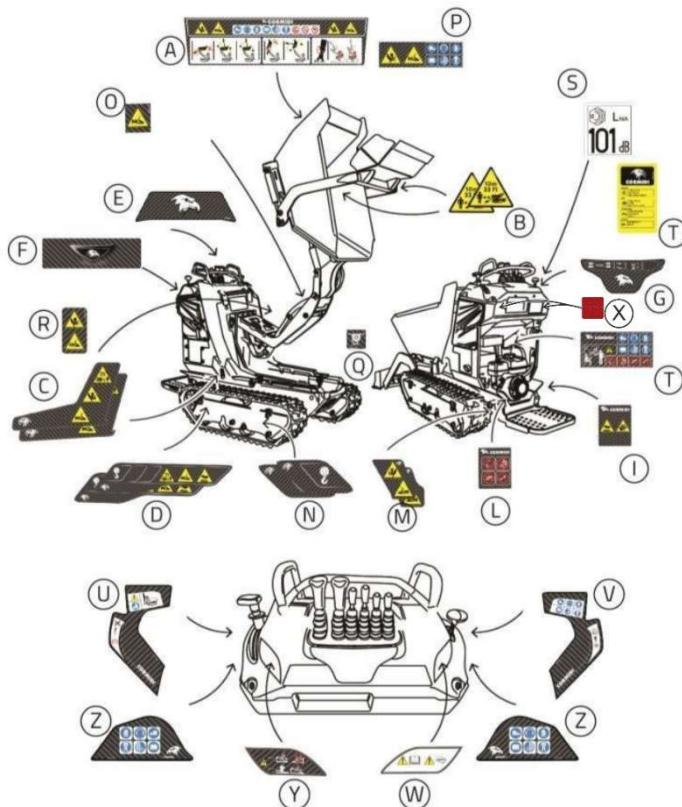

fig. 2.1 – Location of Safety Labels
READ CAREFULLY: During the design phase, every effort was made to prevent possible accidents; however, where this was not technically feasible, specific pictograms were used to highlight potential and imminent risks. Special stickers with signals and descriptions associated with pictograms were created to emphasize possible dangers, in accordance with the UNI 9244-95 (E) standard (see fig. 2.1).